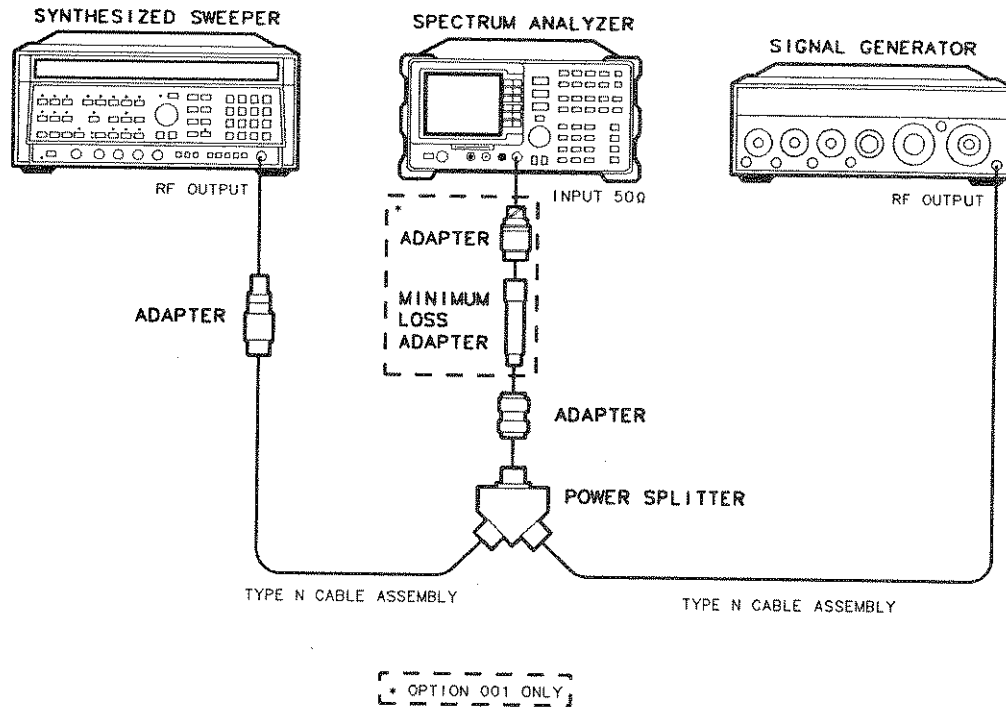

Figure 3-6. Frequency Span Accuracy Test Setup
1. Connect the equipment as shown in Figure 3-6. Note that the Power Splitter is used as a combiner. *Option 001 only:* Connect the minimum loss adapter to the INPUT 75 Ω using the appropriate adapters.